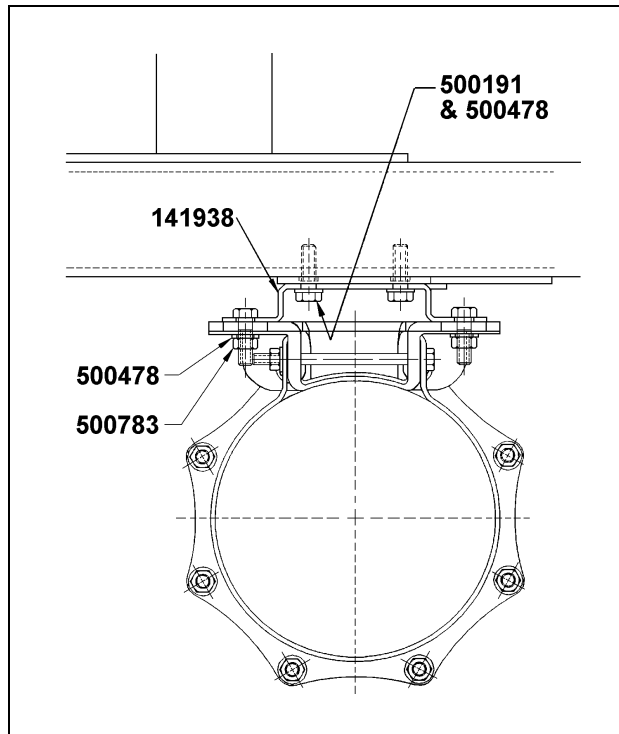

FIGURE 4: SUPPORT PLATE
6. Install support plate (Prévost #141938) on rear subframe beam, customer may choose to bolt or weld support plate (refer to fig. 4):